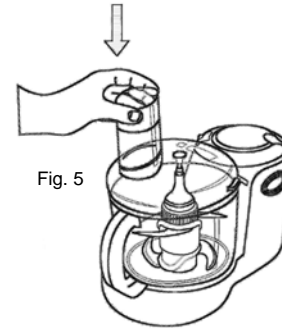
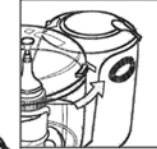

Fig. 5
Fig. 6
4. Then holding the processor lid by the feeding tube, place the processor lid onto the bowl and turn counter clockwise to lock the lid in place. Ensure that the lid tab has "clicked" into place and that the arrow on the lid is aligned with the dot on the unit. (Fig. 5 & Fig. 6)